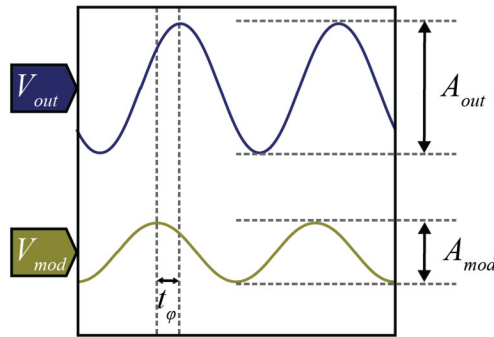

Fig. 5: Example scope waveforms with two probes measuring V_{out} and V_{mod} , with amplitudes and time differences shown.
- Using the cursors and/or measurement functions of the scope, measure the amplitude of the sinusoid on the output voltage, the amplitude of the sinusoid on V_{mod} , and the time difference between the maximum values of both (A_{out} , A_{mod} , and t_{ϕ} , respectively, in Fig. 5). Record these values, as well as the frequency of the perturbation that you set in the function generator.